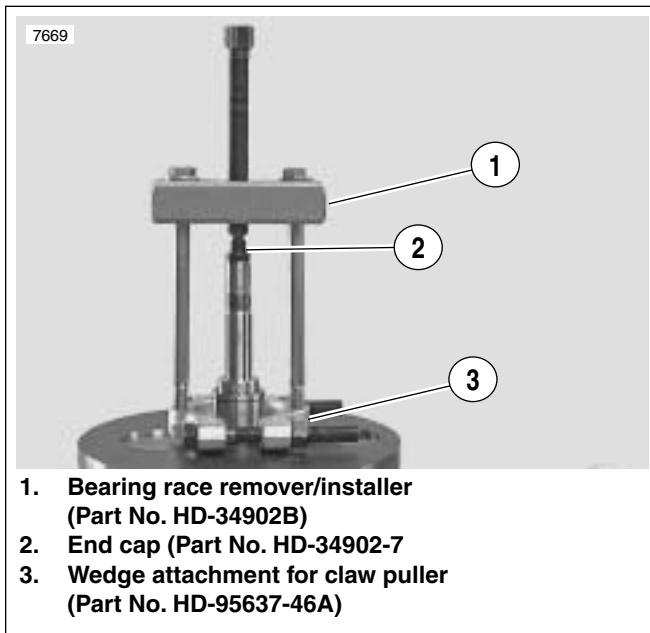

Figure 3-146. Removing Pinion Bearing Inner Race
8. See Figure 3-146. Pull inner race from pinion shaft using WEDGE ATTACHMENT for CLAW PULLER (Part No. HD-95637-46A) with BEARING RACE REMOVER/INSTALLER (Part No. HD-34902B) and END CAP (Part No. HD-34902-7). Apply heat to race to aid removal.